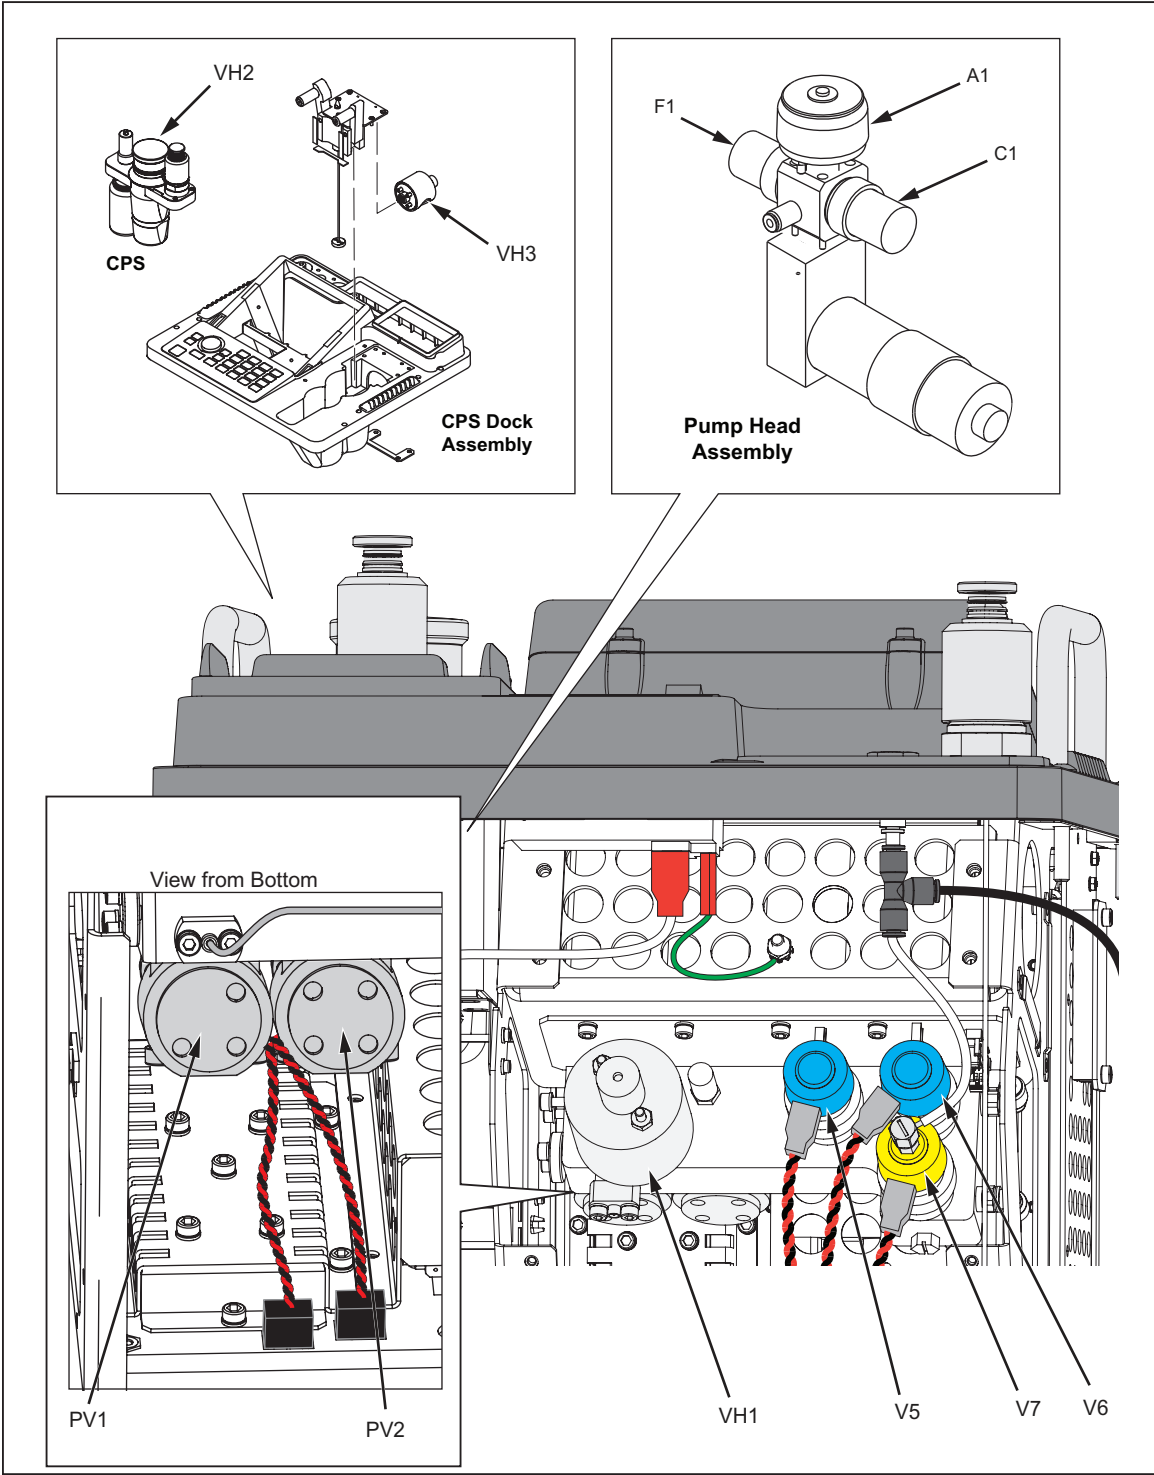
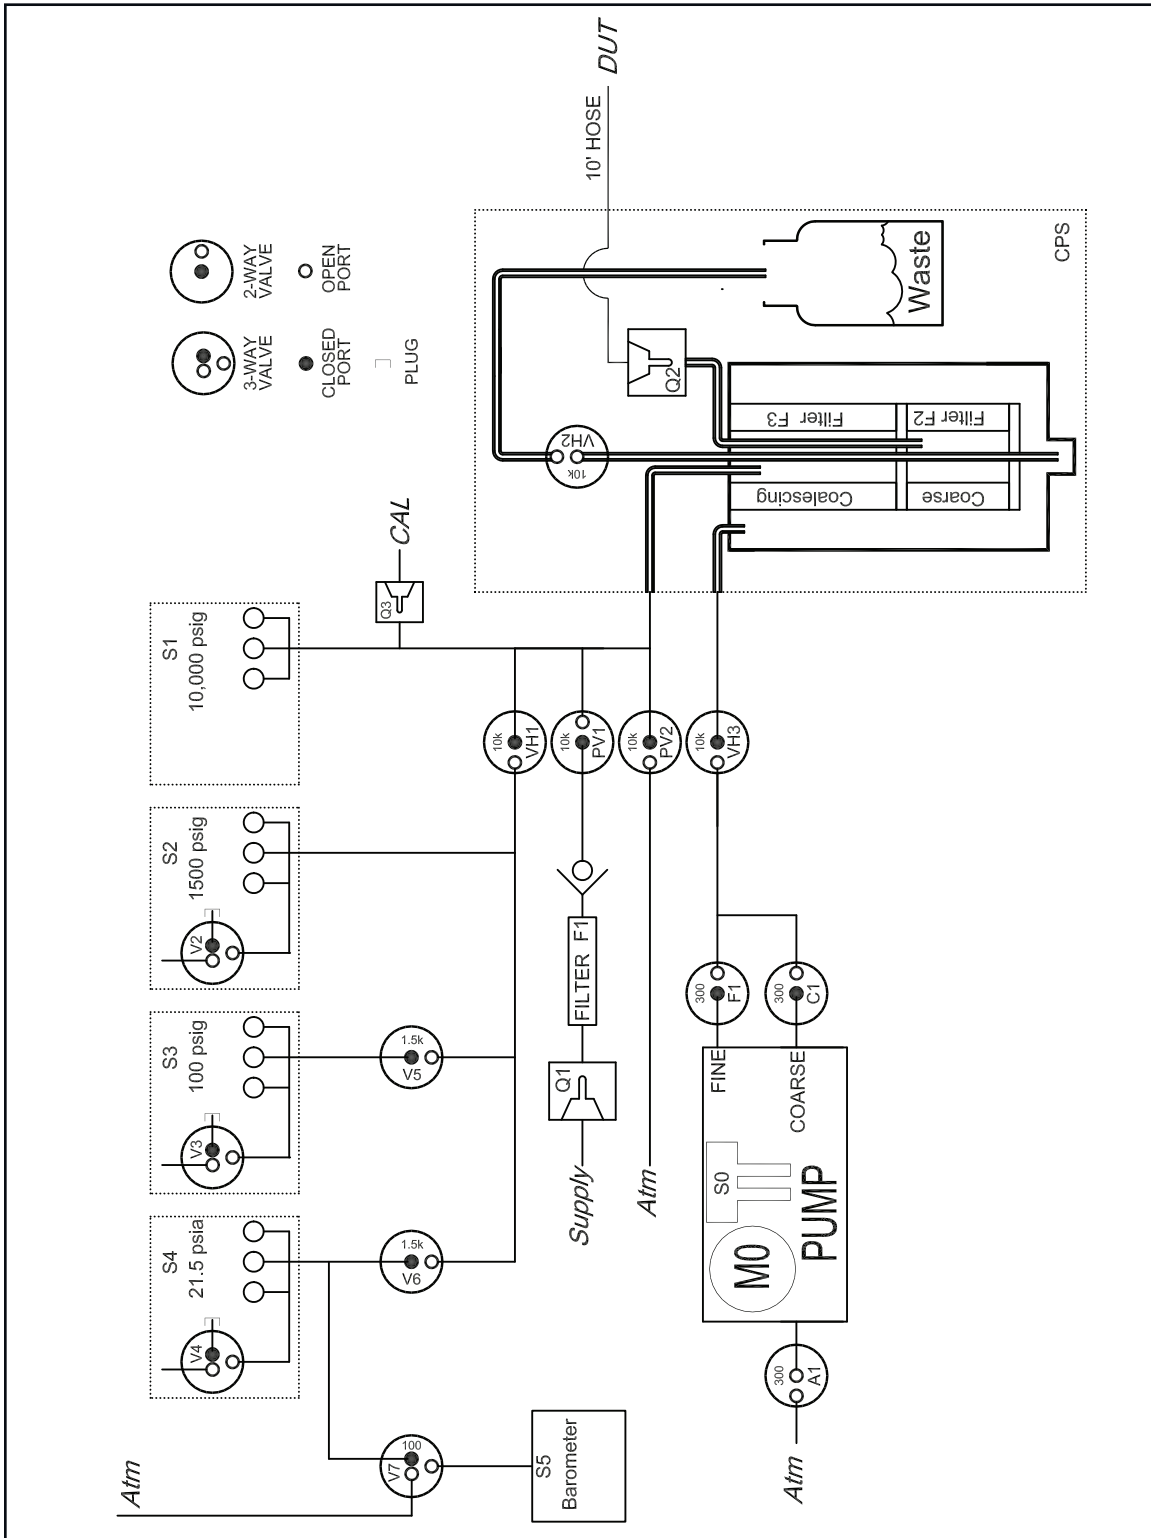

Figure 2-1. Location of the Pressure Valves
Figure 2-2. Pressure Valve Schematic
See the *4322 Operators Manual* for more information on the pressure limits. Read the subsequent sections to learn how the Controller uses the different valves to internally control pressure. Each valve has a reference designator that is used throughout this chapter. Figure 2-1 is an illustration that shows where each of the valves are physically located. Figure 2-2 shows a schematic of the isolation valves, solenoids, piezo-electric valves in the Controller. Table 2-1 shows the configurations of the isolation valves, solenoids, and piezo-electric valves at different phases or pressures.
The Controller can set pressure from 28 kPa to 70 MPa gauge (4 psig to 10,000 psig) using external supply gas, such as from the nitrogen cylinder or Intensifier. The sequence below describes pressure control and measurement processes when using an external pressure source. Refer to Figure 2-2 and Table 2-1 as required.
3. Next, the operator sets a target pressure value. For ascending excursions, the microprocessor configures the valves VH1, V5, and V6 in the system as shown in Figure 2-2 and Table 2-1. The pressure transducer for the pressure range selected is activated and starts measuring pressure. For descending excursions, the controller decreases pressure while reading the current pressure transducer until pressure is within the range of the pressure transducer needed for the target pressure. Then the microprocessor configures valves VH1, V5, and V6 and starts reading the appropriate transducer.
Figure 2-2 shows the isolation valves, solenoids, and piezo-electric valves in the
The microprocessor uses the atmosphere valve (A1) and the coarse valve (C1) to change pressure quickly and uses the atmosphere valve (A1) and the fine valve (F1) for precise pressure control. Refer to Figure 2-2 and Table 2-1 as required.